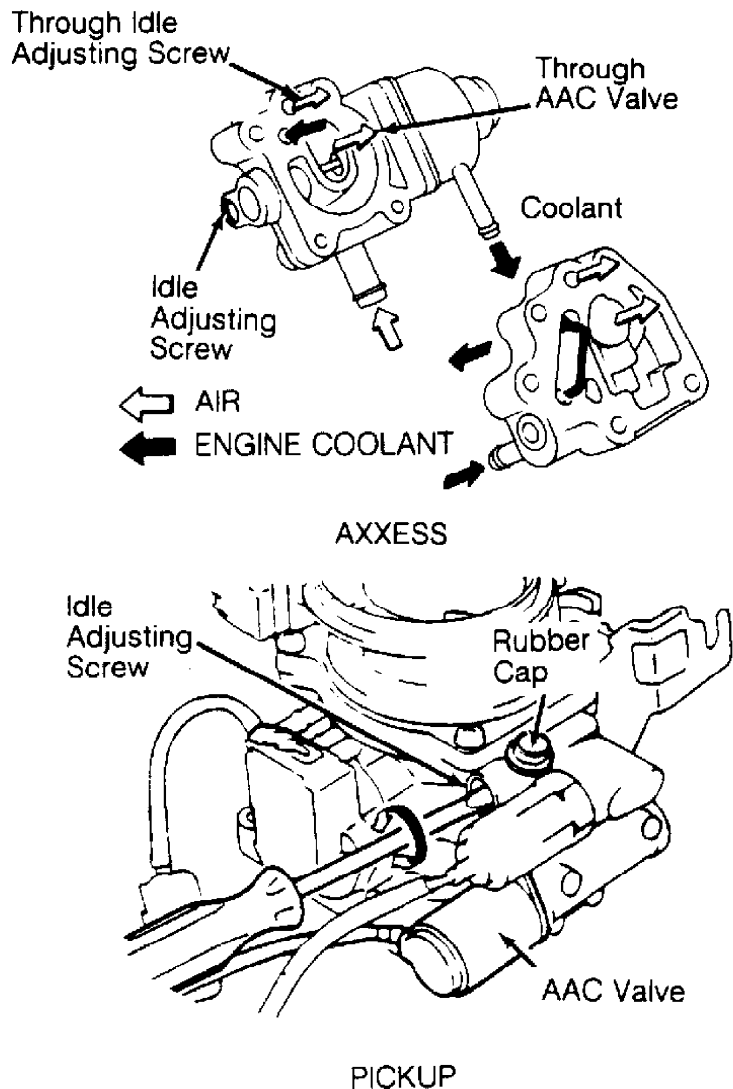

Fig. 2: Adjusting Idle Speed (Axxess)
- 3) If ignition timing is incorrect, disconnect throttle position sensor harness connector. If engine speed is more than 800 RPM, reduce idle speed with idle speed adjusting screw. See Fig. 2 or 3.
3) If idle speed is incorrect, disconnect throttle sensor harness connector. Ensure engine speed is less than 800 RPM (850 RPM on Pickup). If idle is not as specified, adjust by turning idle speed adjusting screw. See Fig. 2 or 3.